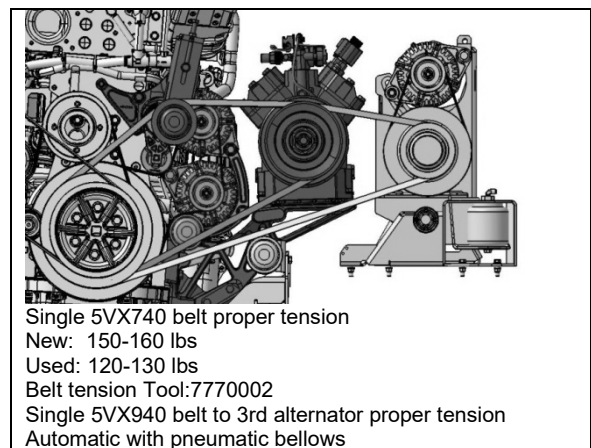
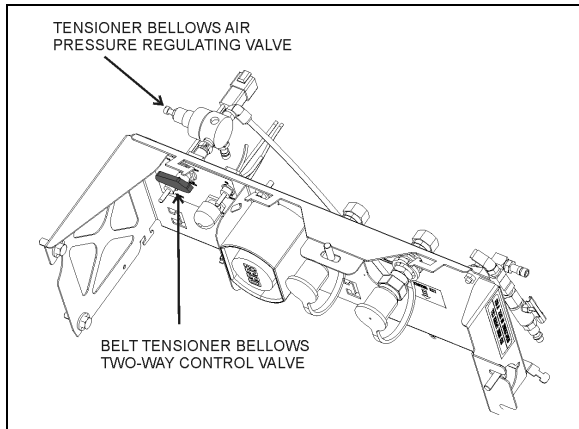

FIGURE 37: H3 SERIES BELT LAYOUT W/ 3RD ALT.
FIGURE 39: BELT TENSIONER CONTROL VALVE - H3 SERIES
2. For vehicles equipped with a 3rd alternator, belt tensioning is also applied through air bellows (Figure 37). Turn the belt tensioner two-way control valve counterclockwise to release bellows pressure (Figure 39).
For H3 series vehicles equipped with a 3rd alternator, (Figure 37) belt tensioning is also applied through air bellows which is adjusted by an air pressure regulating valve pressure (Figure 39). The correct pressure of 45 psi is set at the factory. Periodically verify the pressure at the regulating valve using a pressure gauge and correct if required.
Belt tensioning is applied through air bellows which are adjusted by an air pressure regulating valve (Figure 39). The correct pressure of 45 psi is set at the factory. Periodically verify the pressure at the regulating valve using a pressure gauge and correct if necessary.